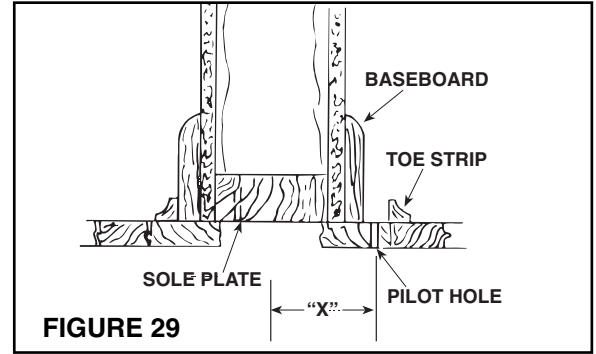

FIGURE 29
1. See Figure 29. A small 'pilot' or 'locating' hole can be drilled behind baseboard toe strip to determine proper location of 2½" diameter tubing hole in sole plate.